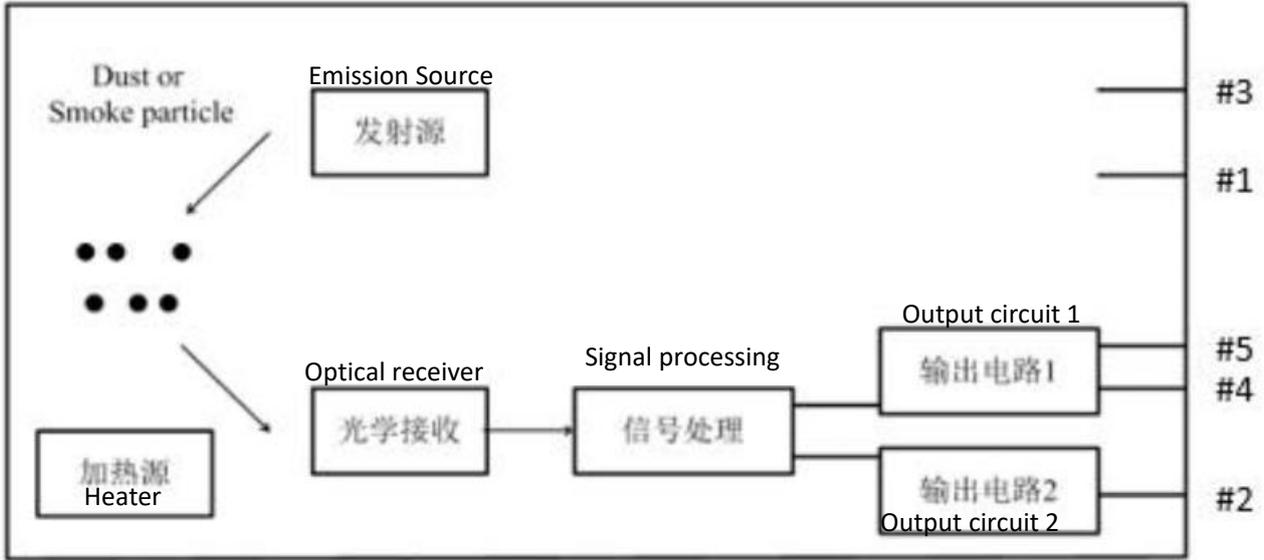

Fig 3. Principle schematic 2
1.1. Installation must be vertically. As shown in Figure 3, the power resistance of the air heating, hot air to promote the external gas into the optical path and promptly removed, the wrong way to install the sensor will read abnormal.